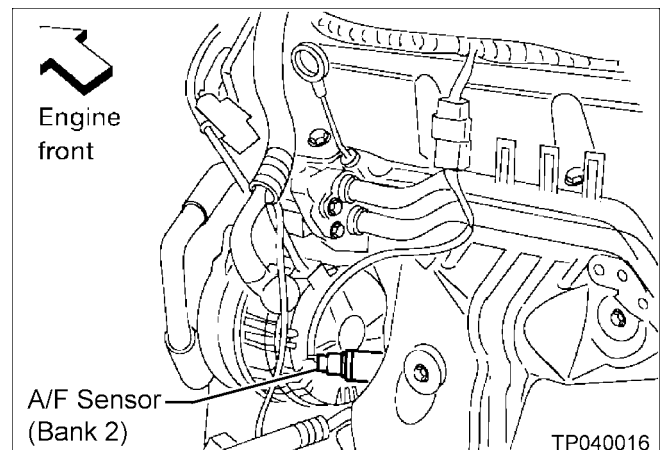

Figure 2
- It is located on the side of the engine that is towards the **front** of the vehicle (see Figure 2)